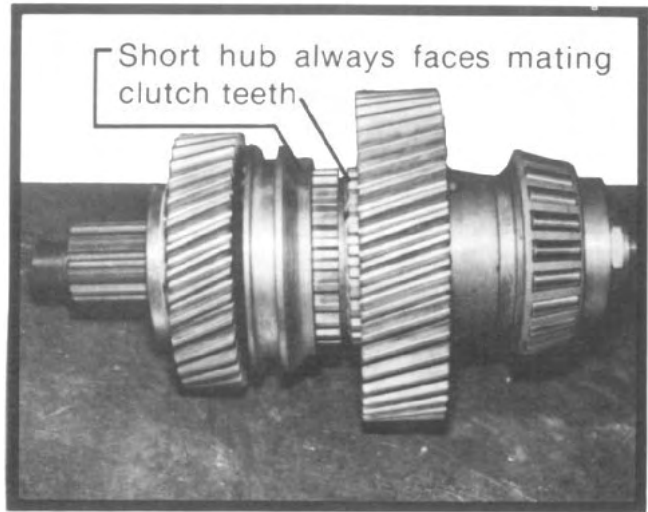

Fig. 5—TC-65 Input Shaft Assembly with Blanking Sleeve
8. The clutch collar shift fork slot is offset, which is indicated in Fig. 5. The long side can be determined by examining the collar for the external short extended hub. This short hub, referred to in the assembly instructions, must *always* face the mating gear clutch teeth, whether in the de-clutch housing, PTO housing or main case.
### TC-65 & TC-80: (See Fig. 5, 6 and 7)
rear of the shaft. Slide the clutch collar onto the teeth of the clutch gear. The side of the collar with the short hub is to face the rear of the shaft (see fig. 5)
4. Slide clutch collar over the front of the shaft and over the raised teeth of the input shaft (short hub to face direct drive gear, see fig. 5). Slide spacer ring ( $2\frac{1}{32}$ " thick) over front of shaft and onto the raised teeth of shaft. Slide spacer ring ( $1\frac{31}{32}$ " thick) over front of shaft and onto the raised hub portion of the shaft past the splines. The inner diameter chamfer of the spacer is to face the direct drive gear.
4. Slide spacer ring ( $2\frac{1}{32}$ " thick) over rear of shaft and onto the raised teeth of the shaft (not used on PTO-110). Slide clutch collar over the rear of the shaft and over the raised teeth of the shaft. Short hub side of collar (see fig. 5) to face toward where the direct drive gear will be placed.